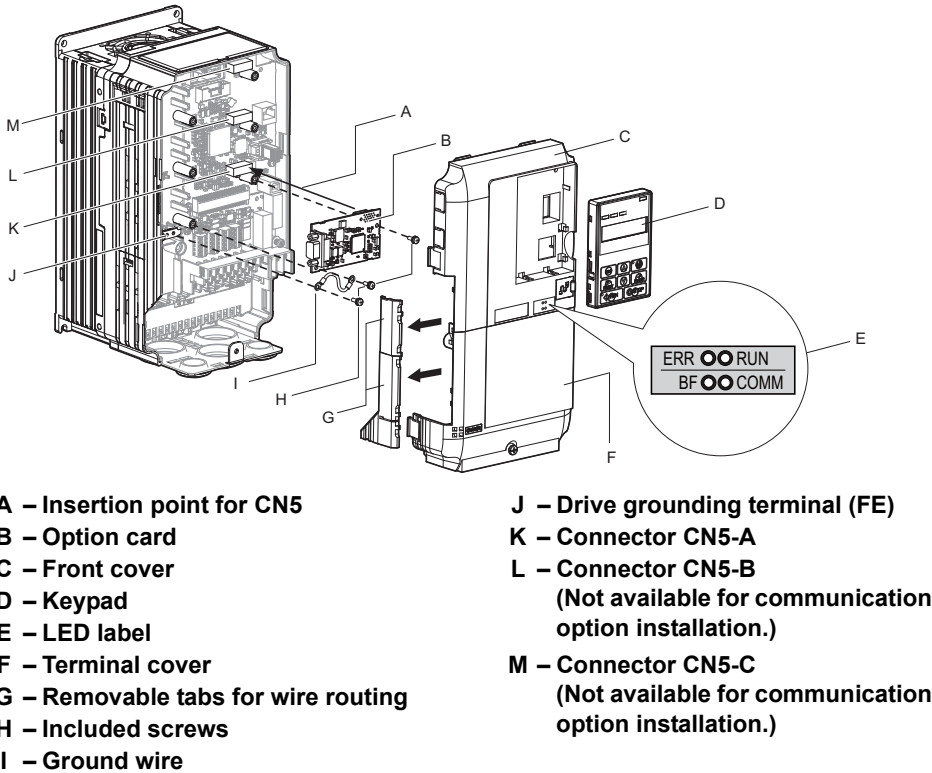

Figure 4 Drive Components with Option
- Refer to Figure 4 for an exploded view of the drive with the option and related components for reference in the installation procedure.